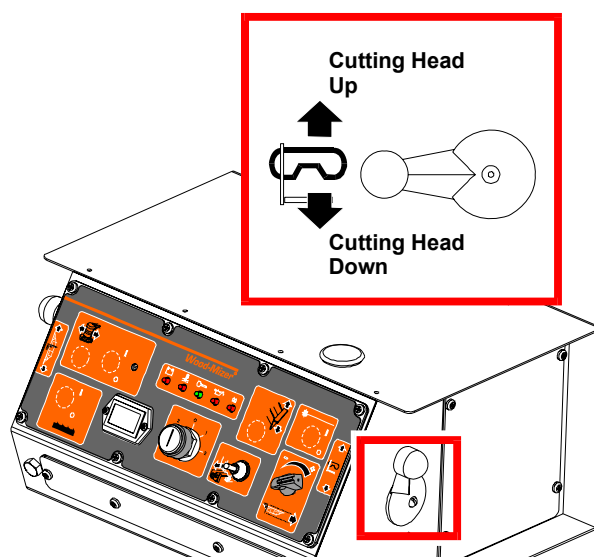

FIG. 2-13
**See Figure 2-13.** The up/down switch is located on the far right side of the control panel. Push the switch up to raise the cutting head; push the switch down to lower the cutting head. Hold the switch in position until the cutting head reaches the desired height, then release.